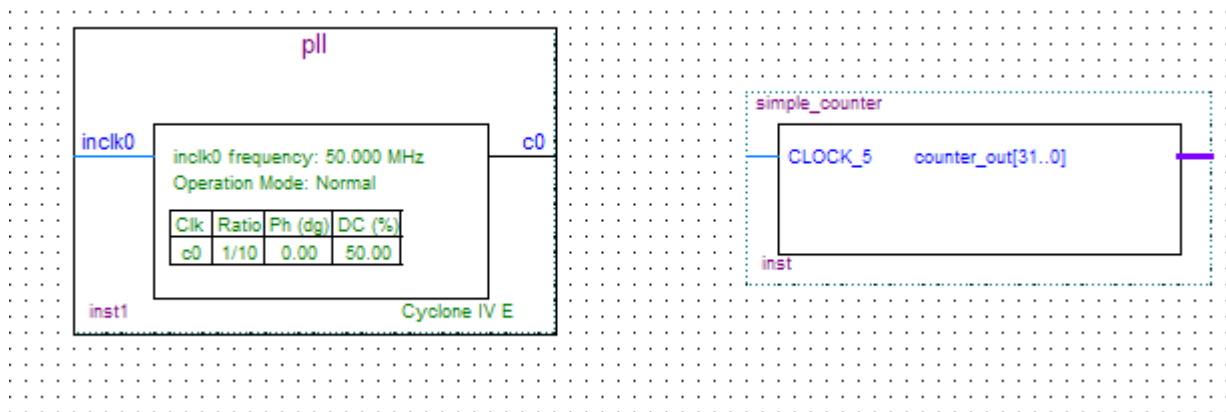

Figure 6-26 Place the PLL Symbol
11. Click **OK** and place the pll symbol onto the BDF to the left of the simple_counter symbol. You can drag and drop the symbols, if you need to rearrange them. See Figure 6-26.